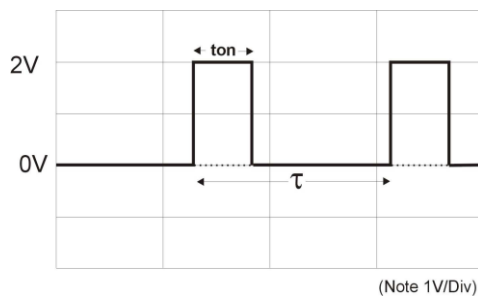

Figure 8: DC PWM Signal
The initial setup is to produce a 2V waveform with DC offset such that the lower voltage level is 0V (see Figure 8). This is achieved by setting the Voltage Amplitude and the DC Offset knobs and checking the waveform on the oscilloscope.
As outlined in the previous level in DC systems the mean output voltage is controlled by the Duty Cycle (D) of the switch. For a square wave as shown on Figure 8 ($V_{pk} = 2V$ in this case) this can be expressed mathematically as: